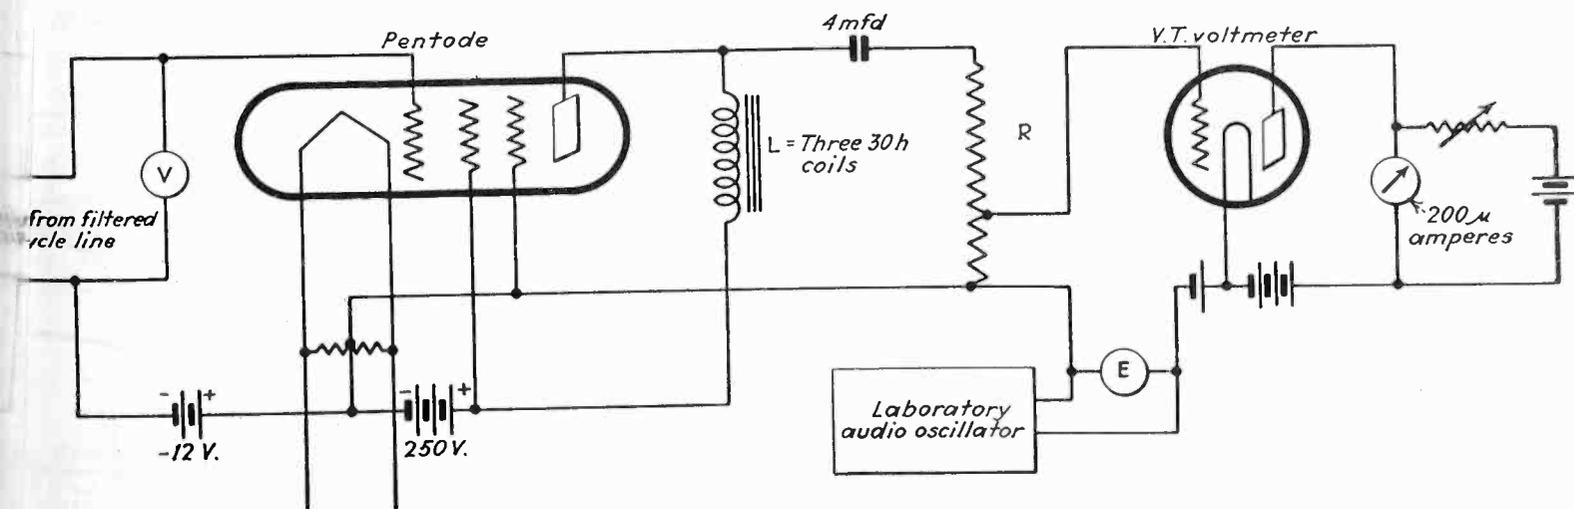
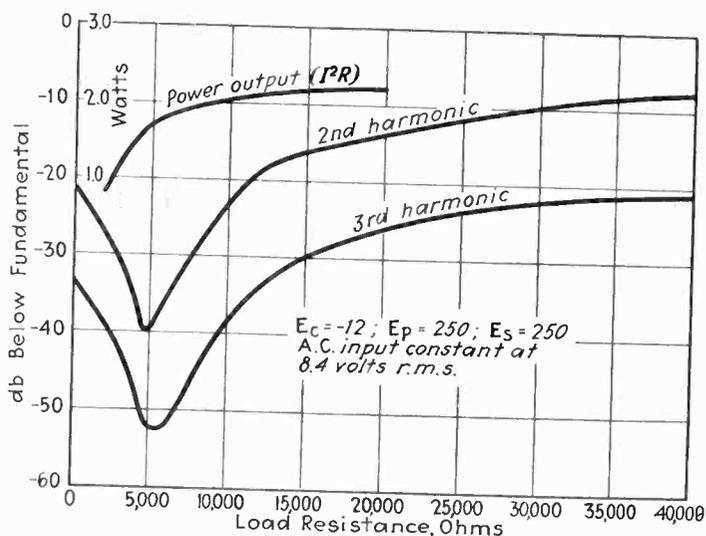

Fig. 3—Circuit used for measuring harmonics from power pentode tube
Fig. 4—Distortion vs. load resistance; power pentode
The data given in Figs. 4 and 5 will give a definite quantitative idea of the voltages and currents involved in harmonic measurements by this method. The data given in these figures were obtained in connection with some measurements on an experimental power pentode tube made by the Arcturus Radio Tube Company. Fig. 3 gives the details of the circuit. Using a 200 microampere meter in the vacuum tube voltmeter circuit it is not difficult to measure harmonic voltages as low as 0.01 volts.
The measurements of distortion as a function of the load resistance were made by applying to the grid an a.c. voltage whose peak value was equal to the d.c. bias (-12 volts) on the grid. With the a.c. input held constant the load resistance was then varied from practically zero up to a value equal to the R_p of the tube, in this case approximately 40,000 ohms. The results of this test are given in Fig. 4. From these curves the best value of load resistance, from the standpoint of minimum distortion, was found to be approximately 5,000 ohms and a second group of measurements was then made with this value of load resistance, varying the a.c. voltage applied to the grid from zero up to 8.4 volts, corresponding to a peak input of 12 volts.
The curves of Fig. 4 are the most interesting since they show the distortion with maximum grid excitation—the distortion will of course be less with any smaller value of a.c. input. These curves show that the pentode power output tube produces a minimum amount of distortion at a definite value of load resistance. This condition is quite different from that found with triodes where the distortion progressively decreases as the load resistance is increased. Under the particular conditions of the tests the second harmonic was more than 26 db
It is not possible however to operate the tube six to one range in load resistance, 1,500 ohms to ohms in this particular case, without a considerable change in sensitivity. The power output (Fig. 4) to fall off at load resistances below 7,000 ohm therefore, in practice the range in load resistance which the tube can be operated will be determined by two factors i.e. (1) loss in sensitivity with low value load resistance and (2) distortion with large value load resistances.
The fact that the curves of distortion vs. load resistance show comparatively large amounts of harmonic distortion suggests the possibility that for practical use of the tube it will be necessary to use them in push-pull. The even-order harmonics will be cancelled leaving only the odd-order components to be considered. The curves of Fig. 4 show the third harmonic is less than 5 per cent (26 db or more below the fundamental) at all values of load resistance up to 20,000 ohms. If we consider the normal power output of a tube to be 2 watts, that a 1 db (25 per cent) decrease in power output is permissible and furthermore that the distortion is not to exceed 5 per cent, the useful range with two tubes in push-pull, will extend from 4,000 ohms up to 20,000 ohms. The 4,000 ohm point is determined by the loss in power output and the 20,000 ohm point by distortion. The maximum permissible range in load resistance is therefore 5 to 1. For comparison triode tubes give a power output not less than 1 db below the maximum undistorted output over a range in load resistance of about 4 to 1. If we consider a 3 db decrease in power output to be permissible then the power pentode has a useful range in load resistance of 8 to 1 and the triode has a range of 4 to 1. It seems therefore that consideration of the practicability of the power pentode boils down to a determination of whether its superior sensitivity and its lower plate power dissipation in comparison with the triode is sufficient to warrant its use in receiver power amplifiers.